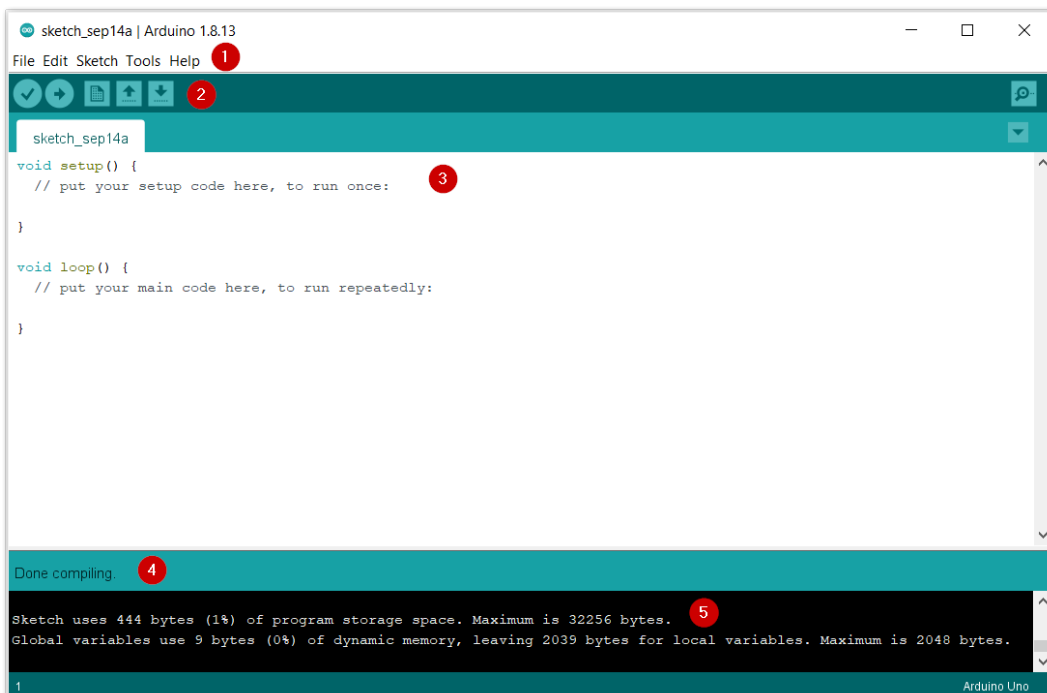

Figure 233: Arduino IDE
Figure 233 shows the five (5) parts of Arduino IDE.